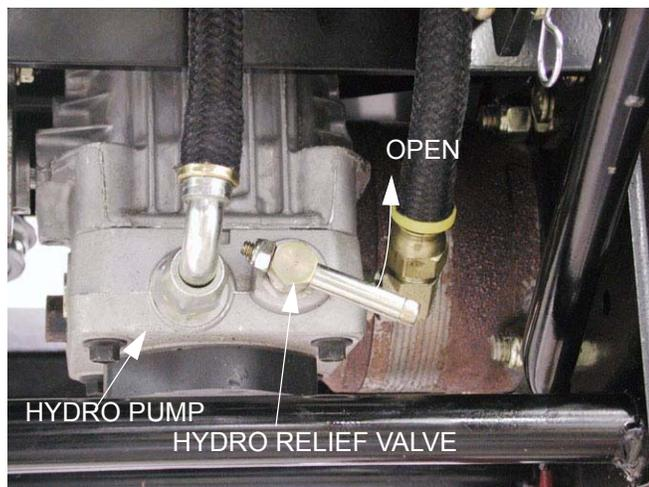

Figure 3.6
3.6. To check for brake drag, open the the relief valve on each hydro pump. With the parking brake released, both wheels should rotate with hand pressure. See Figure 3.6.